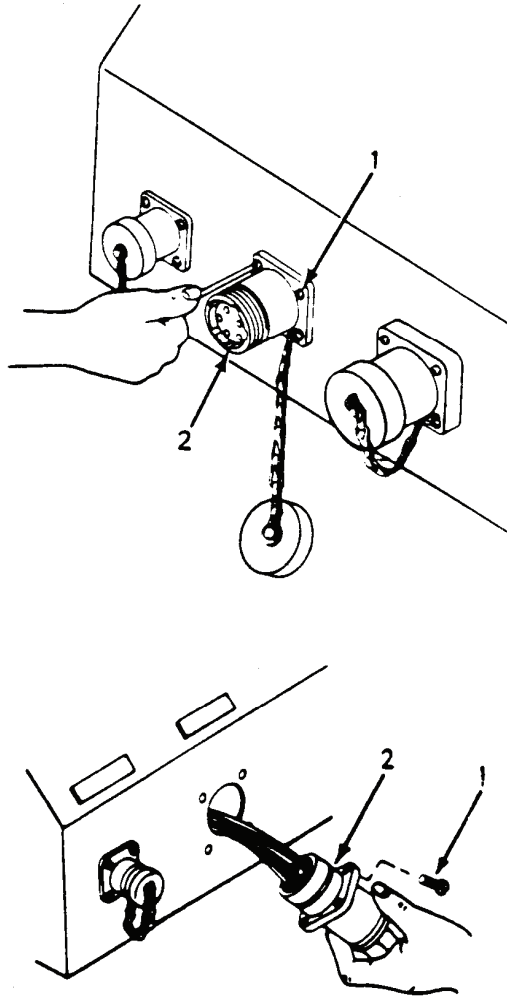

Figure 1. Feeder/Distribution Connector Assembly
5. Remove screw (Figure 1, Item 1) securing receptacle/plug and gasket (Figure 1, Item 2) and remove connector,
6. Install receptacle/plug and gasket (2) in mounting hole and secure with screw (1).